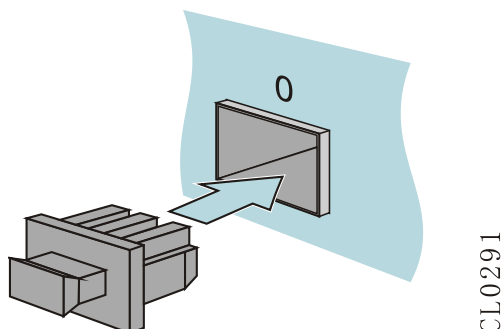

Figure 4-18 Install the dust cap of the optical interface
- ❖ If the optical interface is not inserted with the SFP module, cover the dust cap of the optical interface. The dust cap of the optical interface is delivered with the router. The dust cap of the optical interface is installed, as shown in Figure 4-18.